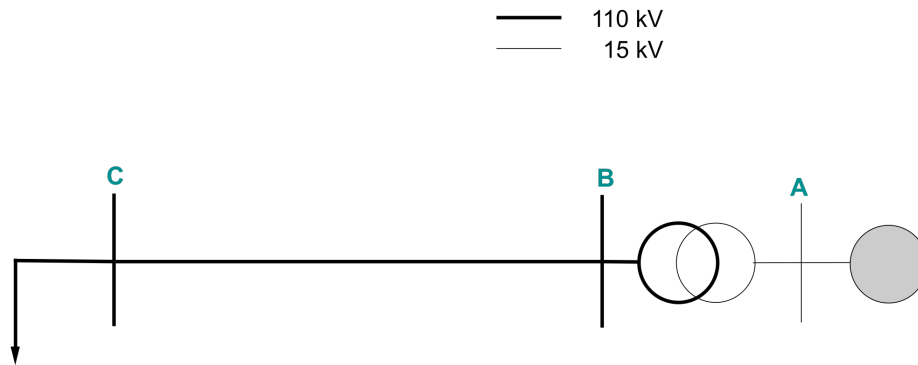

Figure 1.1: One-line diagram
In this lab, we will analyse the electric network shown in Fig. 1.1. The network is composed of 3 buses: A, B, and C. Bus A has a generator connected while bus C has a load. The characteristics of the system are indicated in the tables below. We want to analyse the behaviour of a single line in different loading conditions. To accomplish the above objectives, you need to solve the following tasks:
- Open the "3bus.svg" in a browser. You should see the Figure 1.1. **If you don't see anything, then contact the instructor.**